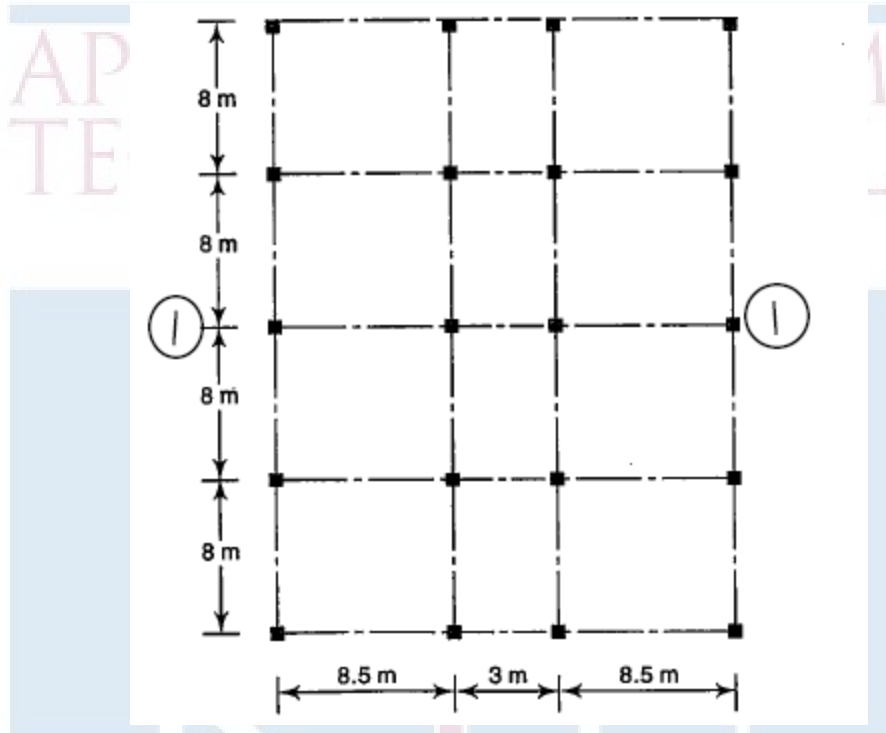

Fig.6.
19. a) Explain how the various building irregularities affect the behaviour of structures to earthquake excitation. (6)
- b) The plan of a five storey building is shown in Fig 6. Dead load including self weight of slabs, finishes, partitions etc can be assumed as 5 kN/m^2 and live load as 4 kN/m^2 on each floor and as 1.5 kN/m^2 on the roof. Determine the base shear and shears at different storey levels for the frame 1-1 marked in figure. (8)